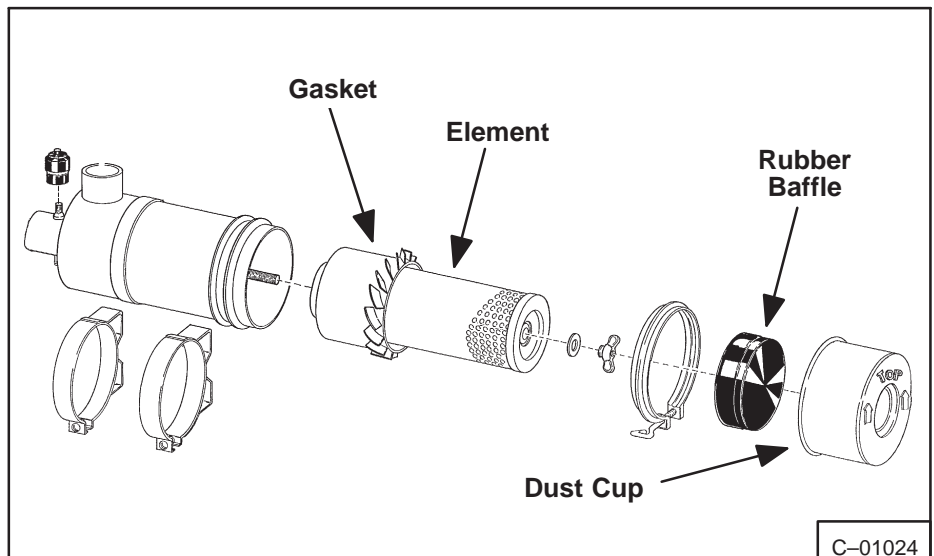

Fig. 1-16 Air Cleaner Assembly
1. Remove and clean dust cup every day (Fig. 1-16).